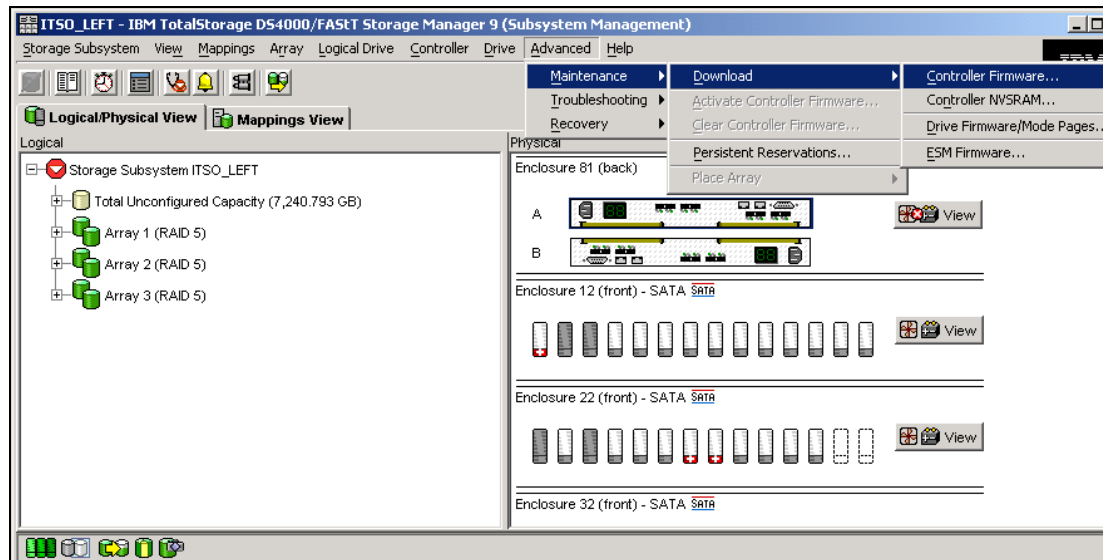

Figure 3-29 Subsystem Management window - Controller firmware update
1. Open the Subsystem Management window for the DS4000 Storage Server you want to upgrade. To download the firmware select **Advanced** → **Maintenance** → **Download** → **Controller Firmware**, as shown in Figure 3-29.